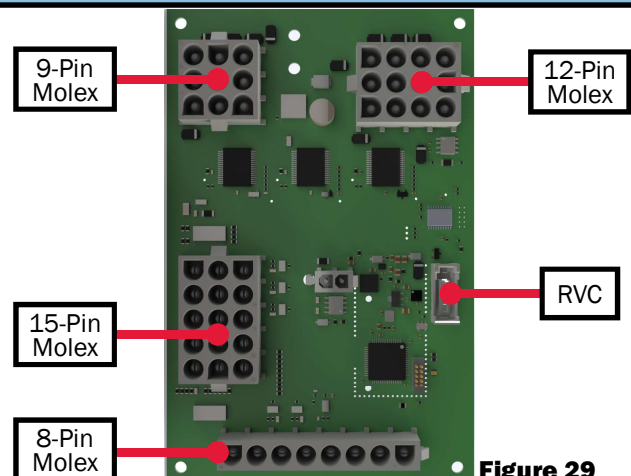

Figure 29
- Suggested disconnect order (see Figure 29):